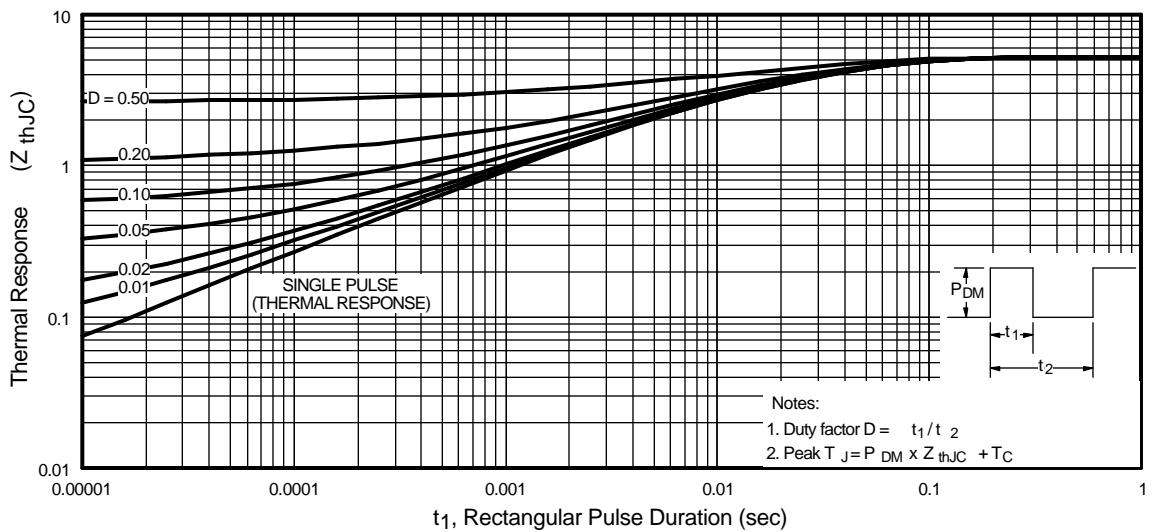

Fig 11. Maximum Effective Transient Thermal Impedance, Junction-to-Case
① Repetitive rating; pulse width limited by max. junction temperature. (See fig. 11)
④ Pulse width $\leq 300\mu\text{s}$; duty cycle $\leq 2\%$.
② Starting $T_J = 25^\circ\text{C}, L = 3.7\text{mH}$